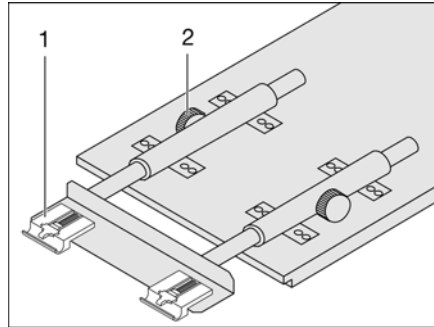

Fig. 91 Extend suspension table
- Undo the knurled screws (Fig. 91,2).
- Lift the table-top slightly and pull it out as far as possible. The table extension (Fig. 91,1) is fully extended.
- Lift the table-top slightly and push it back as far as possible. The table extension (Fig. 91,1) is fully retracted.